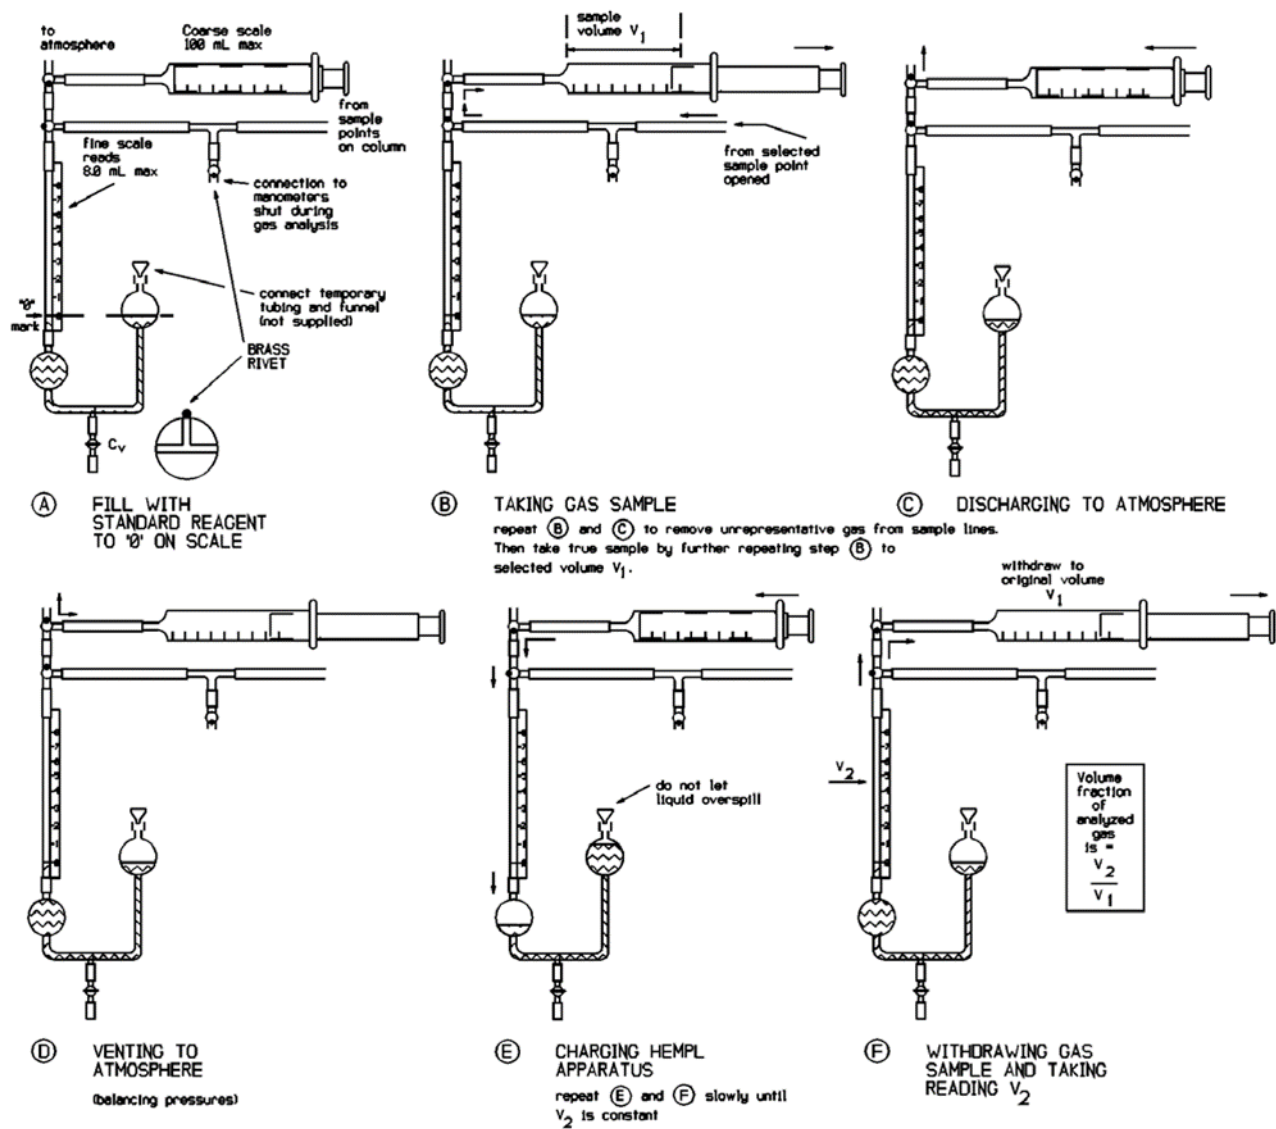

Figure 3. Hempl apparatus for gas analysis
1. Fill the two globes of the absorption analysis equipment on the left of the panel with 1.0 N NaOH solution if it has not already been done. Use a small funnel and tubing. NOTE: Wear safety gloves and goggles. Adjust the level in the globes to the "0" mark on the sight tube, by draining liquid through valve Cv into a flask (See A in Figure 3.). This will normally have been done for you. Ask the TA or Instructor to add more NaOH if necessary to bring the level to zero on the measuring tube scale.